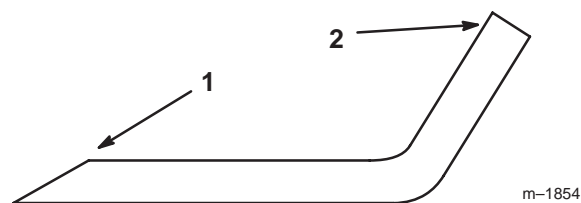
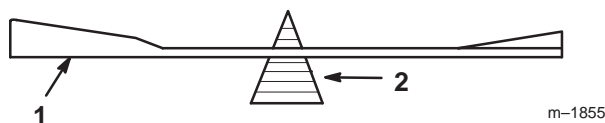

Figure 24
Figure 25
1. Use a file to sharpen the cutting edge at both ends of the blade (Fig. 24). Maintain the original angle. The blade retains its balance if the same amount of material is removed from both cutting edges.
2. Check the balance of the blade by putting it on a blade balancer (Fig. 25). If the blade stays in a horizontal position, the blade is balanced and can be used. If the blade is not balanced, file some metal off the end of the sail area only (Fig. 24). Repeat this step until the blade is balanced.